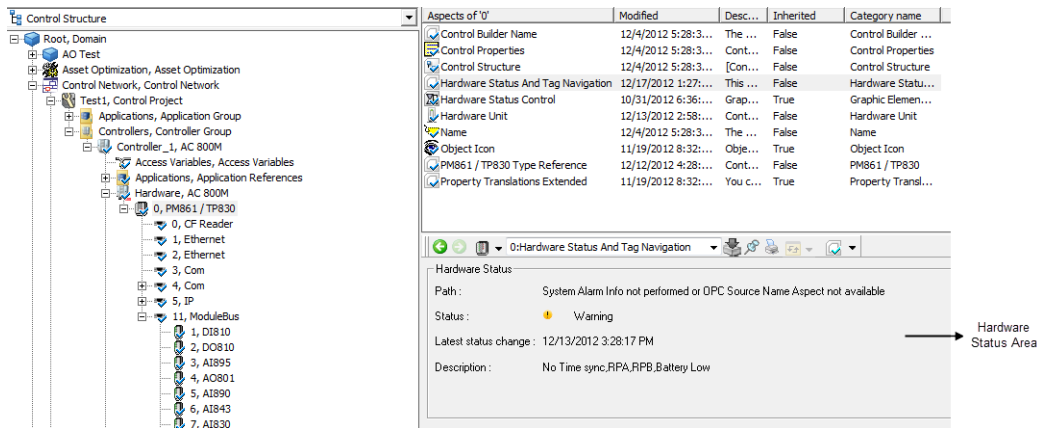
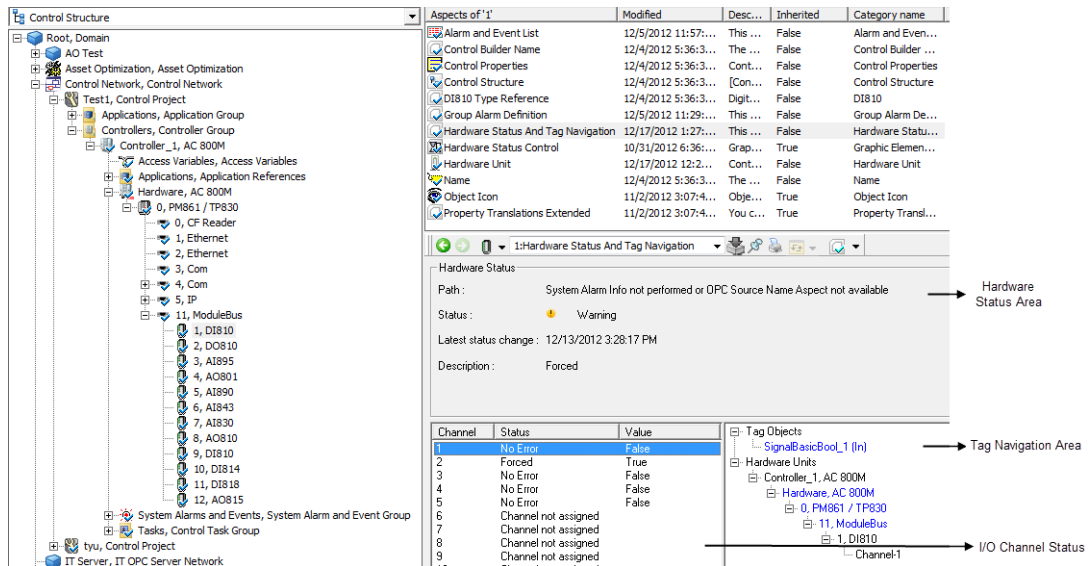

Figure 25. Hardware Status Window for a Hardware/Controller
Figure 26. Hardware Status and Tag Navigation Window for an I/O module
- Hardware Status, shows the errors and warnings for each hardware unit in a control project and additional information for I/O. Refer to Figure 25 and Figure 26.
- Tag Navigation, shows the associated tags information for I/O. Refer to Figure 25 and Figure 26.